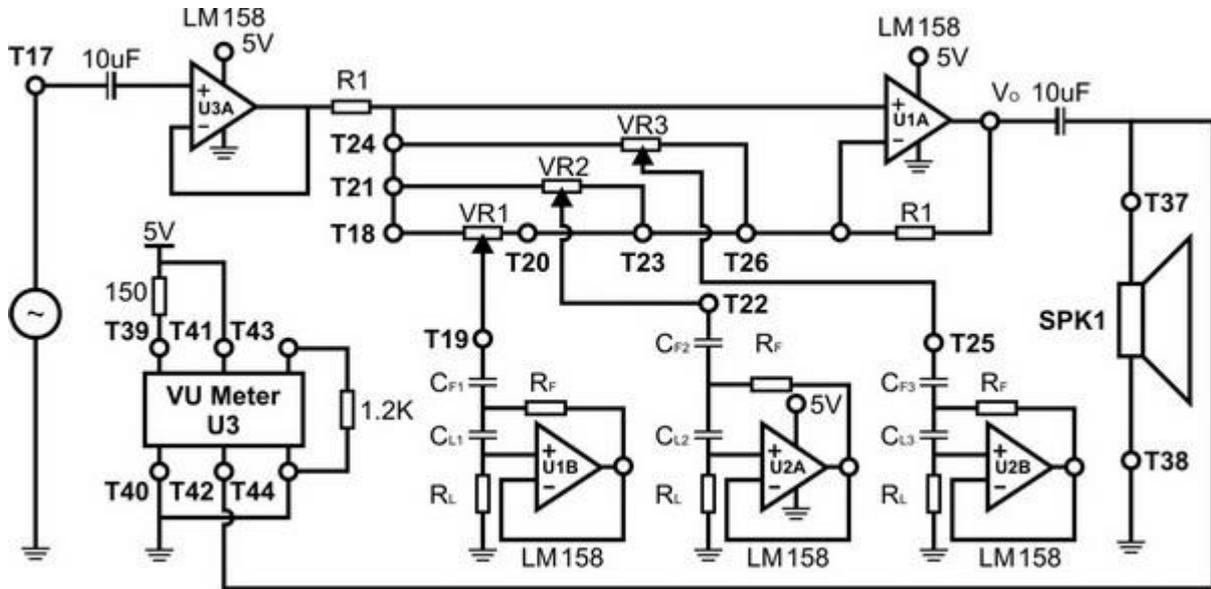

Figure 5 – Schematic Diagram of the 3-Band Gyrator-Based Equalizer with VU Meter
2. Build a 3-band gyrator-based equalizer with UV meter by following the schematic connections as shown in Figure 5 on the breadboard of the ME3100 Analog Circuit Design kit. Refer to the appendix for the pin layout of op-amp **LM158**.
4. Figure 5 shows a 3-band equalizer based on a single variable gain amplifier using, the gyrator-based bandpass filter. The resonant frequencies of the filter are **250Hz, 1 kHz, and 4 kHz**.
6. With all the connections properly connected as shown in Figure 5, configure the power supply as described in Section 4.1 and turn it on. The red LED **D1** on the ME3100 Analog Circuit Design kit will blink for a moment.